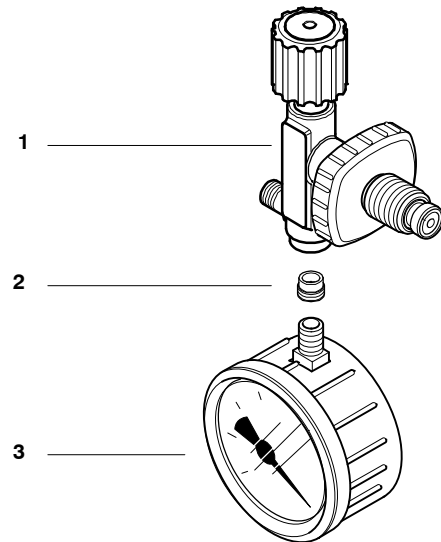

Fig. 37 Sintered metal filter
- Unscrew pressure gauge (3, Fig. 37) from filling valve body (1).
- Screw off sintered metal filter (2) with a suitable screw driver.